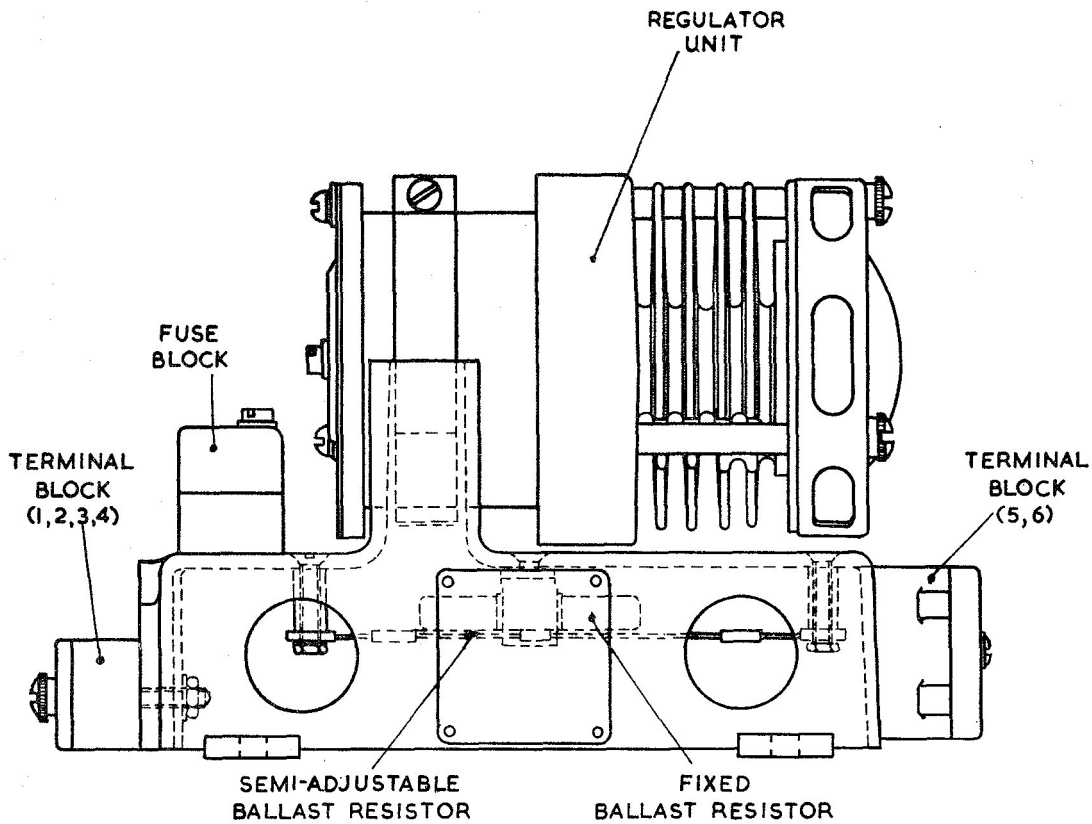

Fig. 1. Voltage regulator, Type 66
2. This regulator (fig. 1) is of the single carbon pile type, and in general construction and principle of operation is similar to the standard design as described in A.P.4343, Vol. I, Sect. 6, Chap. 1. ◀ The pile is 1½ in. long, and consists of a minimum of 38 1-mm. washers. ▶